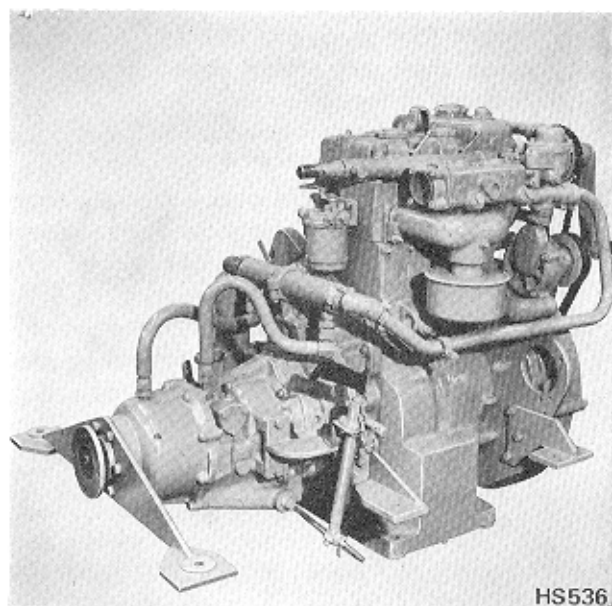

Fig. 140 Hydraulic Gearbox with Reduction Gear
**BORG WARNER REVERSE GEAR (Fig. 140)